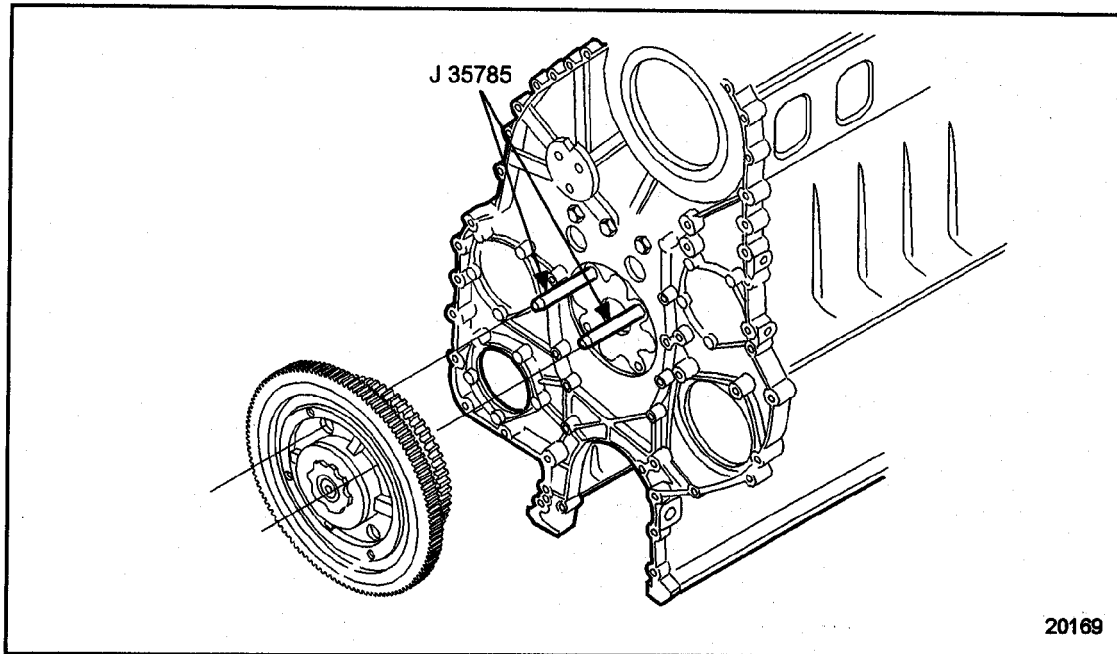

Figure 1-377 Bull Gear Guide Studs
2. Install J 35994, to the oil seal contact area of the crankshaft. See Figure 1-377.